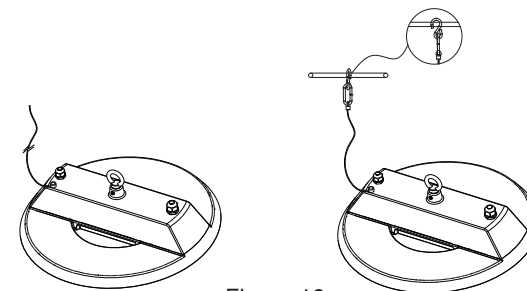

Figure 10
Step 1: Fix the safety rope on the lamp body with screws (Figure 10)